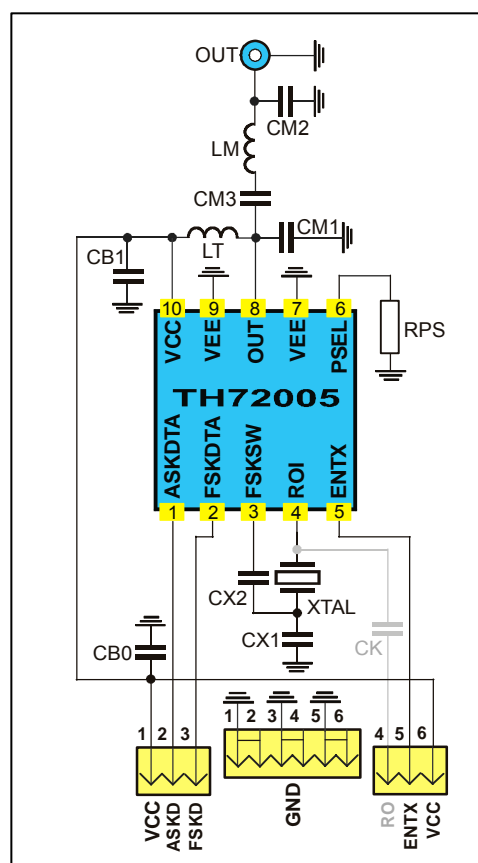

Fig. 7: Circuit diagram with 50 Ω matching network
4.1 Board Component Values to Fig. 7